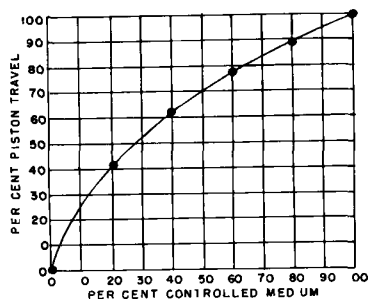

FIGURE 8 Regulated Device Characteristic
- 1 Use straight line cam, B, to determine the actual controlled medium vs power operator piston position characteristic (see Figure 8) (Determine piston position by observing the power operator position indicator, if included)